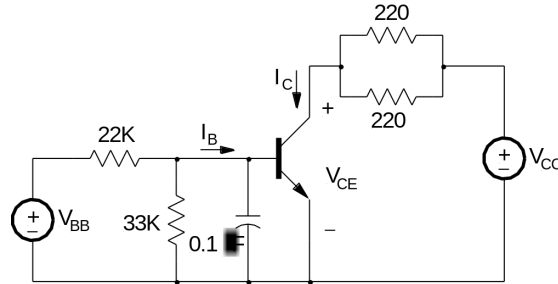

Figure 1: Common-emitter transistor circuit
1. Construct the circuit of Figure 1. Use the +6 V power supply for V_{BB} and the +25 V supply for V_{CC} . Be sure to keep the connection distance between the capacitor and the transistor short. Use the HP multimeter to measure the base current (I_B) on the source side of the capacitor and Fluke multimeters to measure the collector voltage and current (V_{CE} and I_C).